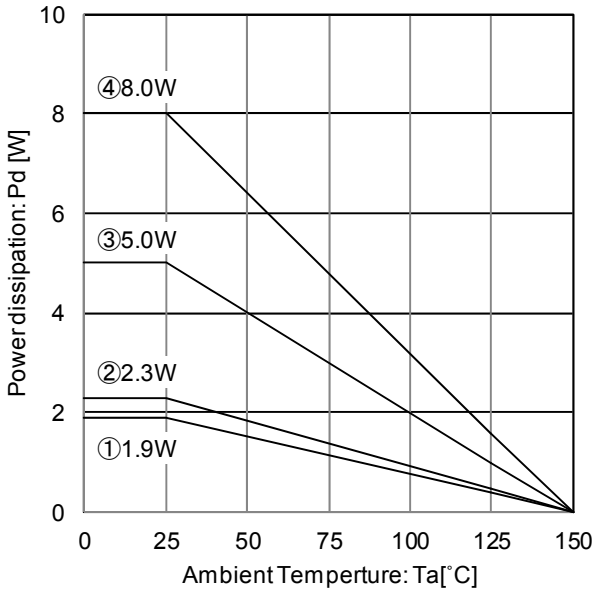

Figure 21. Package data of TO263-5F
Refer to the heat mitigation characteristics illustrated in Figure 21, 22 and the power dissipation under actual operating conditions should be taken into consideration and a sufficient margin should be allowed for in the thermal design. The amount of heat generated depends on the voltage difference across the input and output, load current, and bias current. Therefore, when actually using the chip, ensure that the generated heat does not exceed the Pd rating. Even if the ambient temperature Ta is at 25 °C, it is possible that the junction temperature Tj reaches high temperatures. Keep the whole operating temperature range within Tj ≤ Tjmax.
- Calculation example : with TO263-5F package , Ta = 105 °C, VCC = 13.5 V, VO = 5.0 V, board ③ (Figure 21.)
In case of board ③ in Figure 21, Ta = 105 °C
At Ta = 105 °C with Figure 21 ③ condition, the calculation shows that 211 mA of output current is possible at 8.5 V potential difference across input and output.
- Calculation example : with Tc (bottom) = 80 °C, VCC = 13.5 V, VO = 5.0 V, IO = 200 mA, board ③ (Figure 21.)